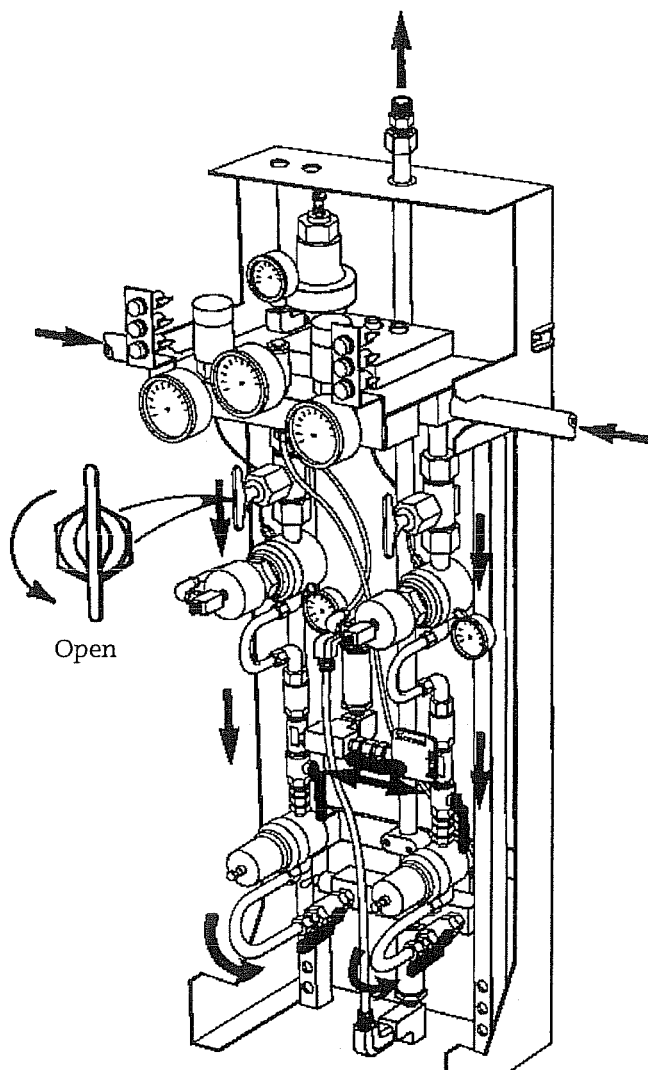

Figure 4-1
Note: Figure 4-1 shows the direction of gas flow with the valves in their normal operating position.
1. Verify that both bank pressure gauges indicate 1800 psig or greater (600 psig or greater for nitrous oxide, carbon dioxide and gas mixtures). (Figure 4-1)